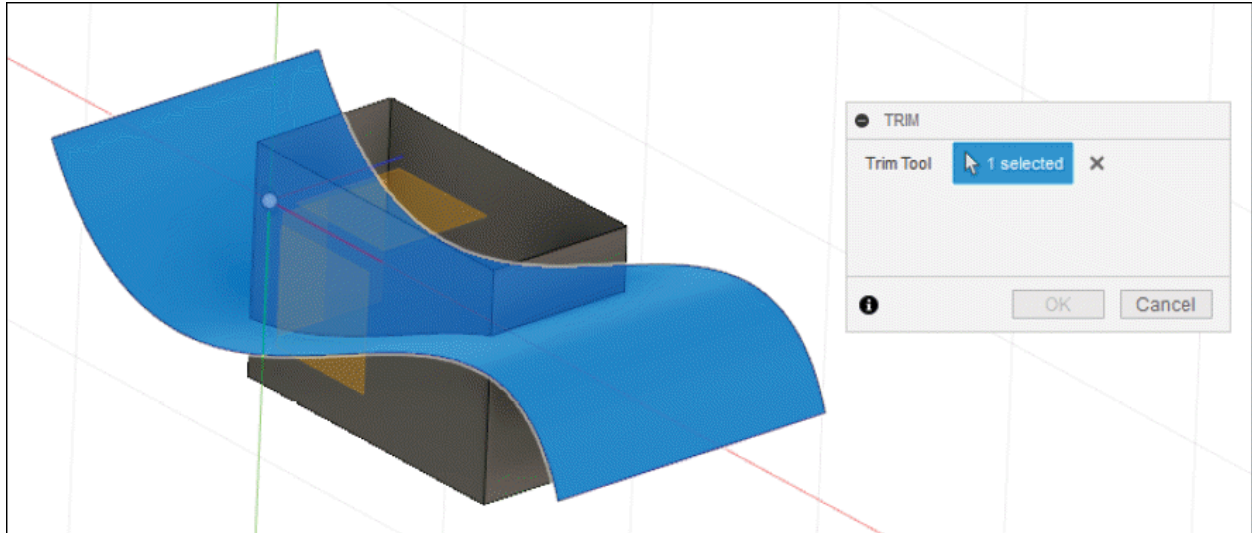

Figure-16. Selection of face as trim tool
- The **Select** button of **Trim Tool** section is active by default. You need to select an existing sketch to trim the surface. You can also select a plane/face intersecting with the surface as trim tool; refer to Figure-16.